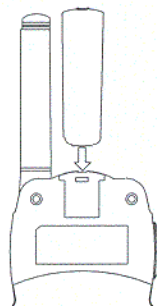

Figure 4.
1. Slide the BELT CLIP into the BELT CLIP SLOT as shown in Figure 4.